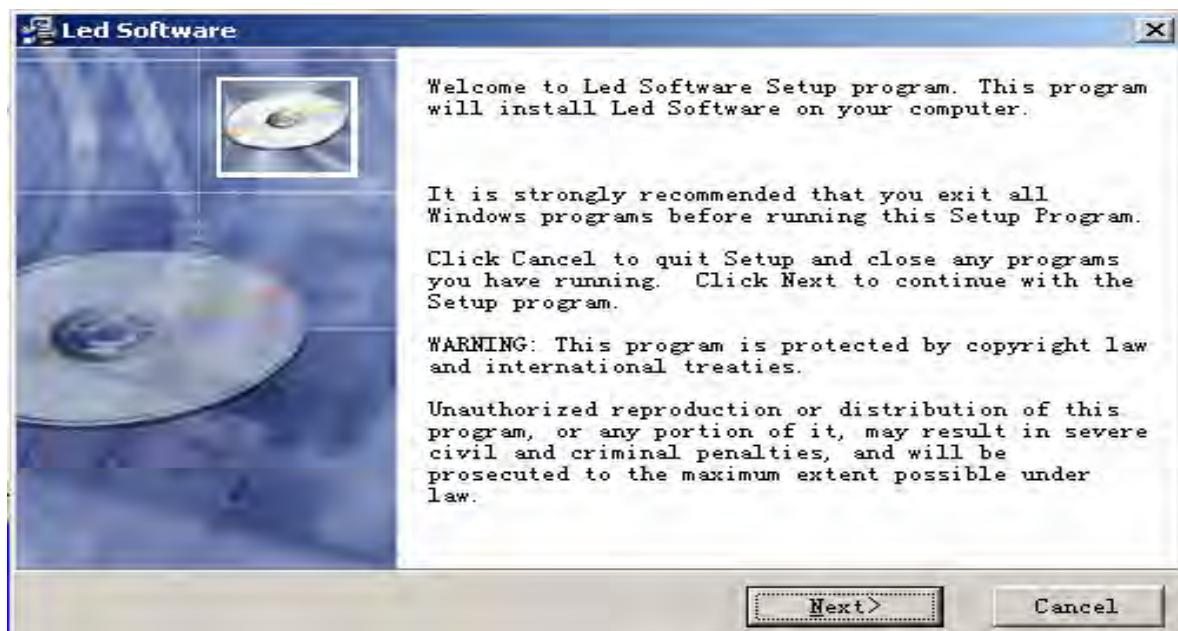

Figure 4-2
2).Choose “Install Led studio” to start installation guidance, as shown in below figure 4-2. And the serial no. is 888888.